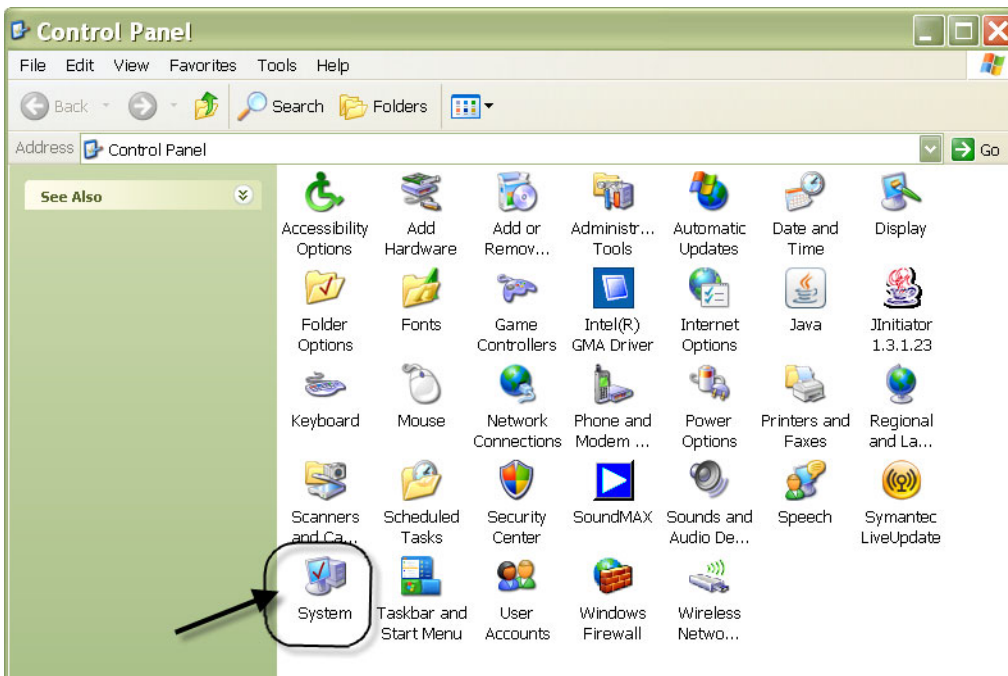

FIG. 189
2. The Control Panel is shown in FIG. 189.